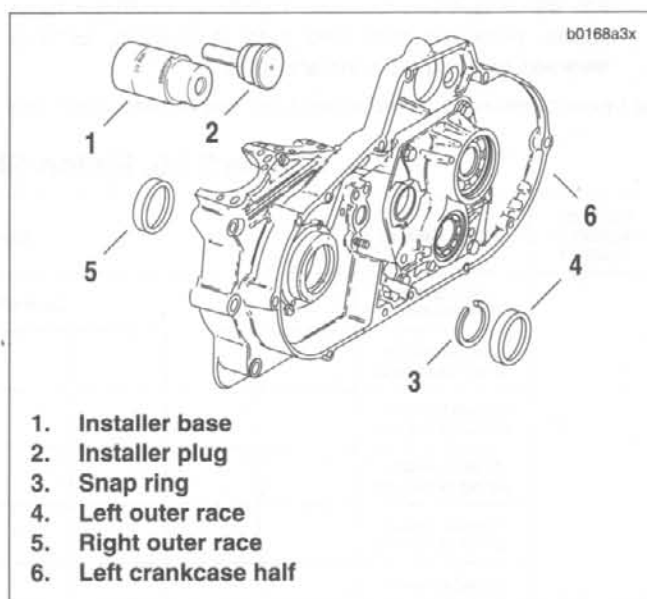

Figure 3-141. Installing Sprocket Shaft Bear Outer Races
See *Figure 3-141*. Use *SPROCKET SHAFT BEARING OUTER RACE INSTALLATION TOOL* (1, 2) (Part No. HD-39458) to install left and right outer races (4, 5) of sprocket shaft tapered roller bearings into left crankcase half (6). Always install left outer race (4) prior to installing right outer race (5) because the installer base (1) is usable only when you follow this sequence of race installation.
2. Insert "SPORTSTER" end of installer base (1) into inboard side of left crankcase half (6) bearing bore until base contacts installed retaining ring (3).
3. Position left outer race (4) over bearing bore on outboard side of left crankcase half (6).
4. Insert shaft of installer plug (2) through left outer race (4) and into installer base (1). Press race into bore until firmly seated against retaining ring (3).
5. Insert "SPORTSTER" end of installer base (1) into outboard side of left crankcase half (6) bearing bore until base contacts outboard surface of installed left outer race (4).
6. Position right outer race (5) over bearing bore on inboard side of left crankcase half (6).
7. Insert shaft of installer plug (2) through right outer race (5) and into installer base (1). Press race into bore until firmly seated against retaining ring (3).